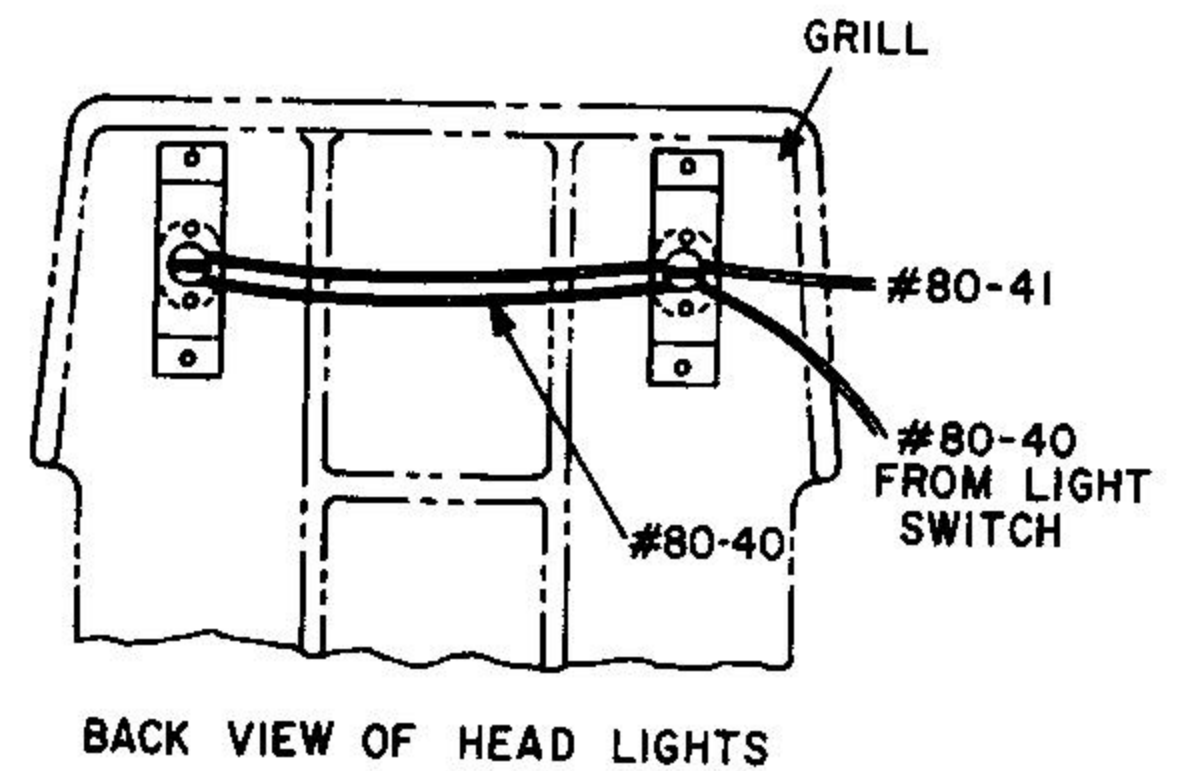

Figure 6
- Attach wires 80-40 and 80-41 to the headlights as shown in Figure 6.